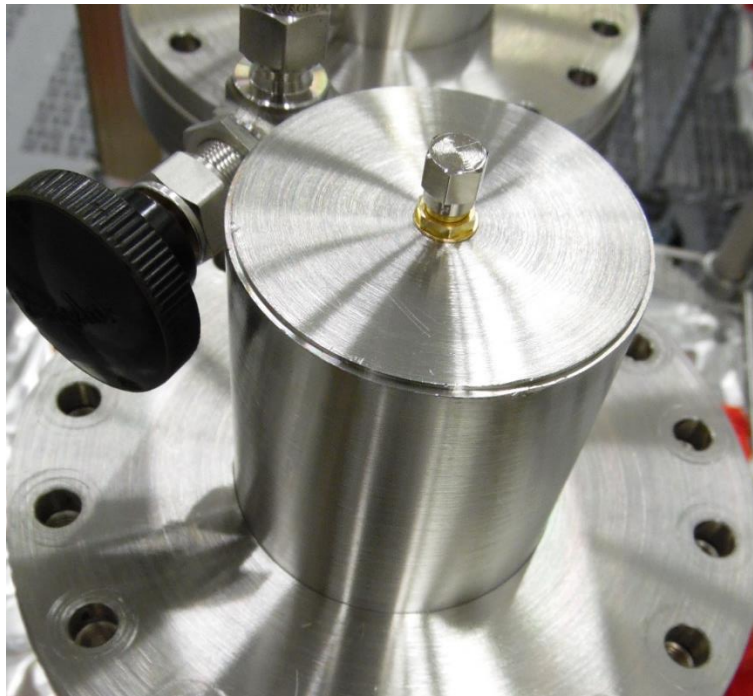

Figure 6.7: SMA connector on ceramic protection cap
- 6.3.7. Slightly unscrew the SMA connector (Figure 6.7) and back-fill the space under the caps with dry, filtered nitrogen.